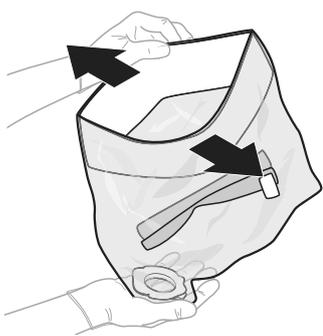

Fig. 16
- ▶ Remove drape from sterile packaging and unfold, see Fig. 16.